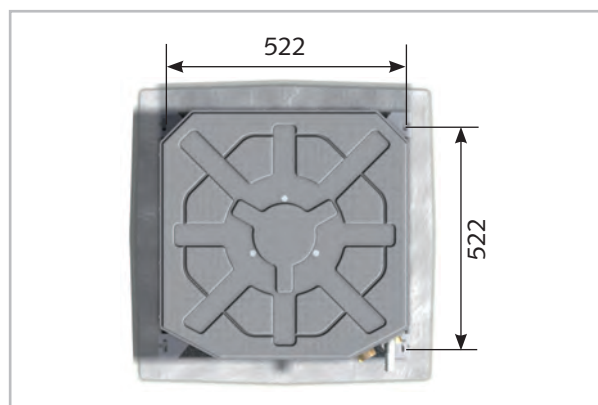

Fig. 19: Hooking in the unit (MXD 204-524)
1. Use the dimensions of the ceiling cassette to mark the fixing points for the threaded rods on structural parts approved to support the static load above the suspended ceiling (Fig. 19).